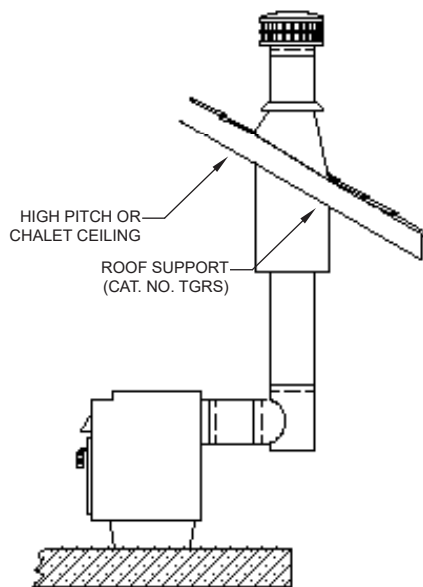

FIG. 11
1. Follow instructions in this section for installations that penetrate a sloped (chalet style) ceiling as shown in FIG. 11.